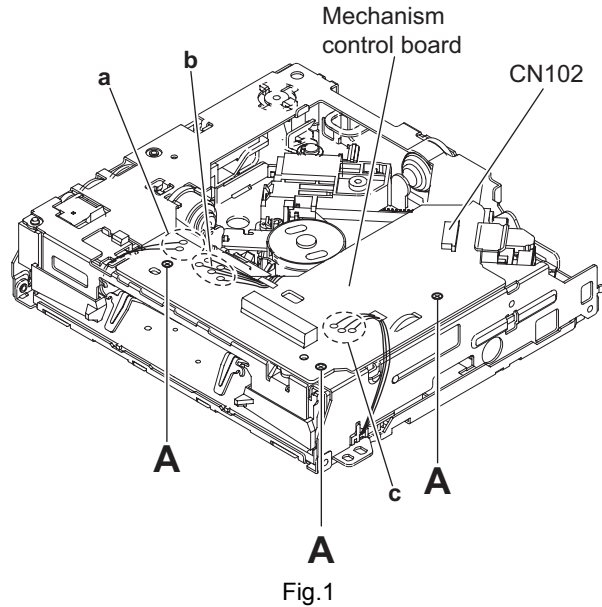

Fig.1
#### 3.2.1 Removing the MECHANISM CONTROL BOARD assembly (See Fig.1 and 2)
- (1) From the bottom side of CD MECHANISM assembly, remove the solders from the soldered sections (a, b and c) on the MECHANISM CONTROL BOARD assembly. (See Fig.1.)
- (2) Remove the three screws **A** attaching the MECHANISM CONTROL BOARD assembly. (See Fig.1.)